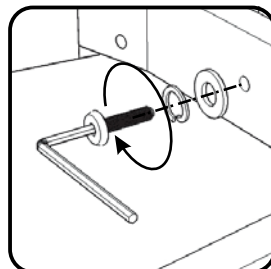

Figure 4
Attach Back Frame (D) to unit with Flat Washers, Spring Washers, Head Cap Bolts (short), Head Cap Bolts (long) and Wood Screws, tightening bolts only halfway. (See Figures 4 and 5)